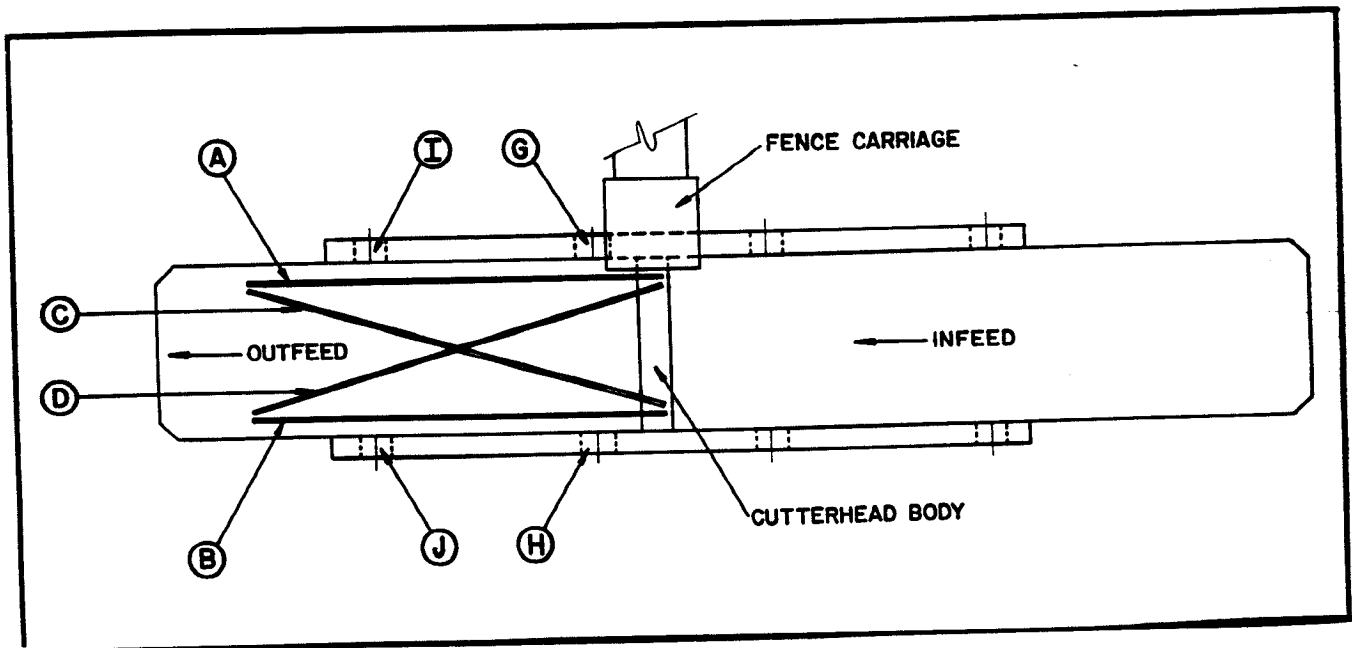
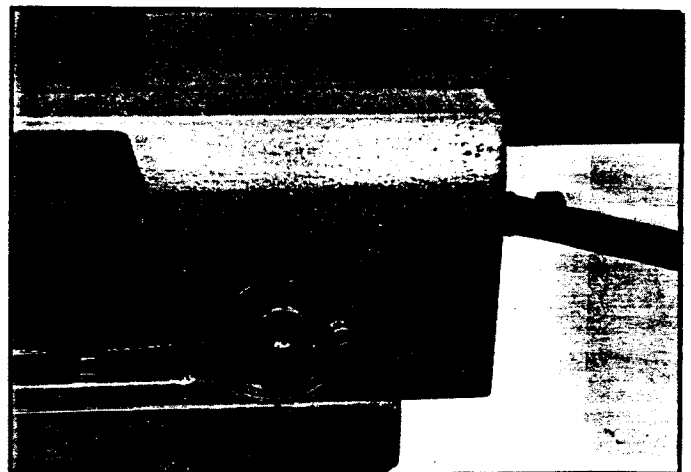

Figure 3-1
Figure 3-3
5. Place straight edge over the cutterhead body and at the rear of the outfeed table (A, Figure 3-1).
7. Place the straight edge over the cutterhead body at the front of the outfeed table (B, Figure 3-1). Again, the cutterhead body to straight edge gap should measure exactly .010".
8. If adjustment is necessary, proceed as follows: locate bushing (H, figure 3-1). Remove Allen locking screw and loosen one in hole. Rotate bushing (B, Figure 3-3) clockwise or counterclockwise to achieve the .010" gap required between the cutterhead body and the straight edge. Retighten first locking screw and reinstall second locking screw.
9. Place the straight edge diagonally over the cutterhead body and outfeed table (C, Figure 3-1). The cutterhead body to straight edge gap must measure exactly .010". If adjustment is needed, locate bushing (I, Figure 3-1), and adjust in same manner as step 3.1.8.
10. Place the straight edge diagonally over the cutterhead body and outfeed table (D, Figure 3-1). The cutterhead body to straight edge gap must measure exactly .010". If adjustment is needed, locate table leveling bushing (J, Figure 3-1) and adjust in same manner as Step 3.1.8.